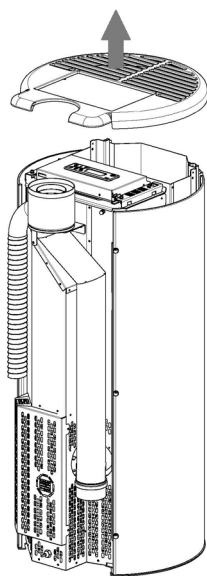

Fig. 71 - Top removal
- Remove the cast iron cover (see **Fig. 71**).